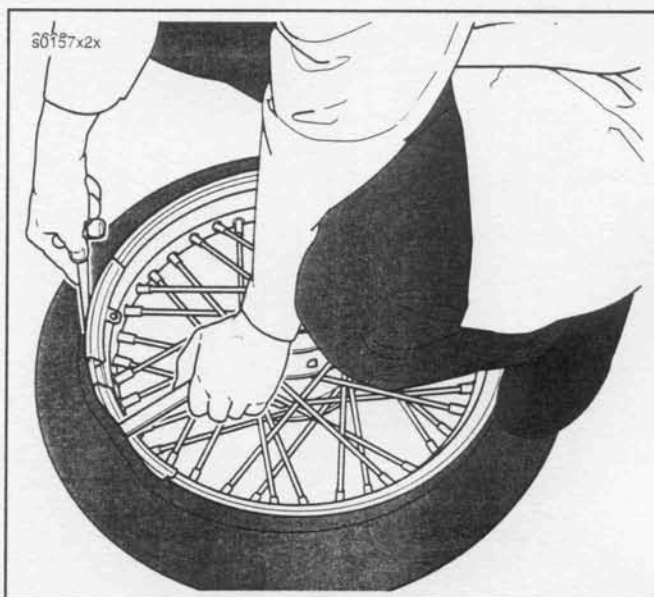

Figure 2-34. Starting Tire Off Rim
4. See Figure 2-34. Using tire tools (not sharp instruments), and RIM PROTECTORS, Part No. HD-01289, start upper bead over edge of rim at valve. Do not use excessive force when starting bead over rim. Bead wires may be damaged, ruining the tire. Repeat all around rim until first bead is over rim. Remove tube valve stem locknuts. Keep the tube in its original position while removing the tube. This will help to locate tire damage. Discard tube.